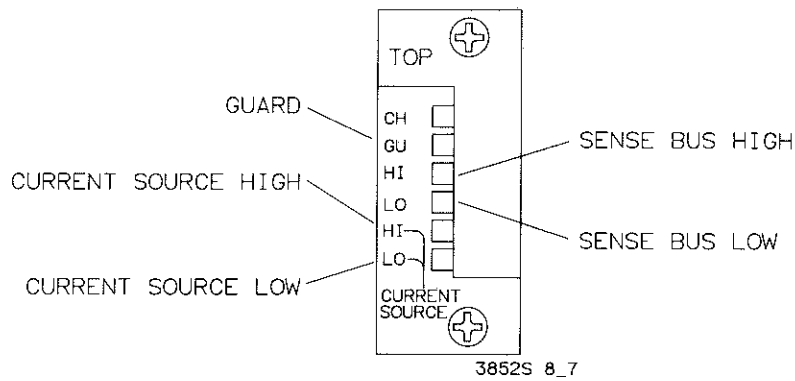
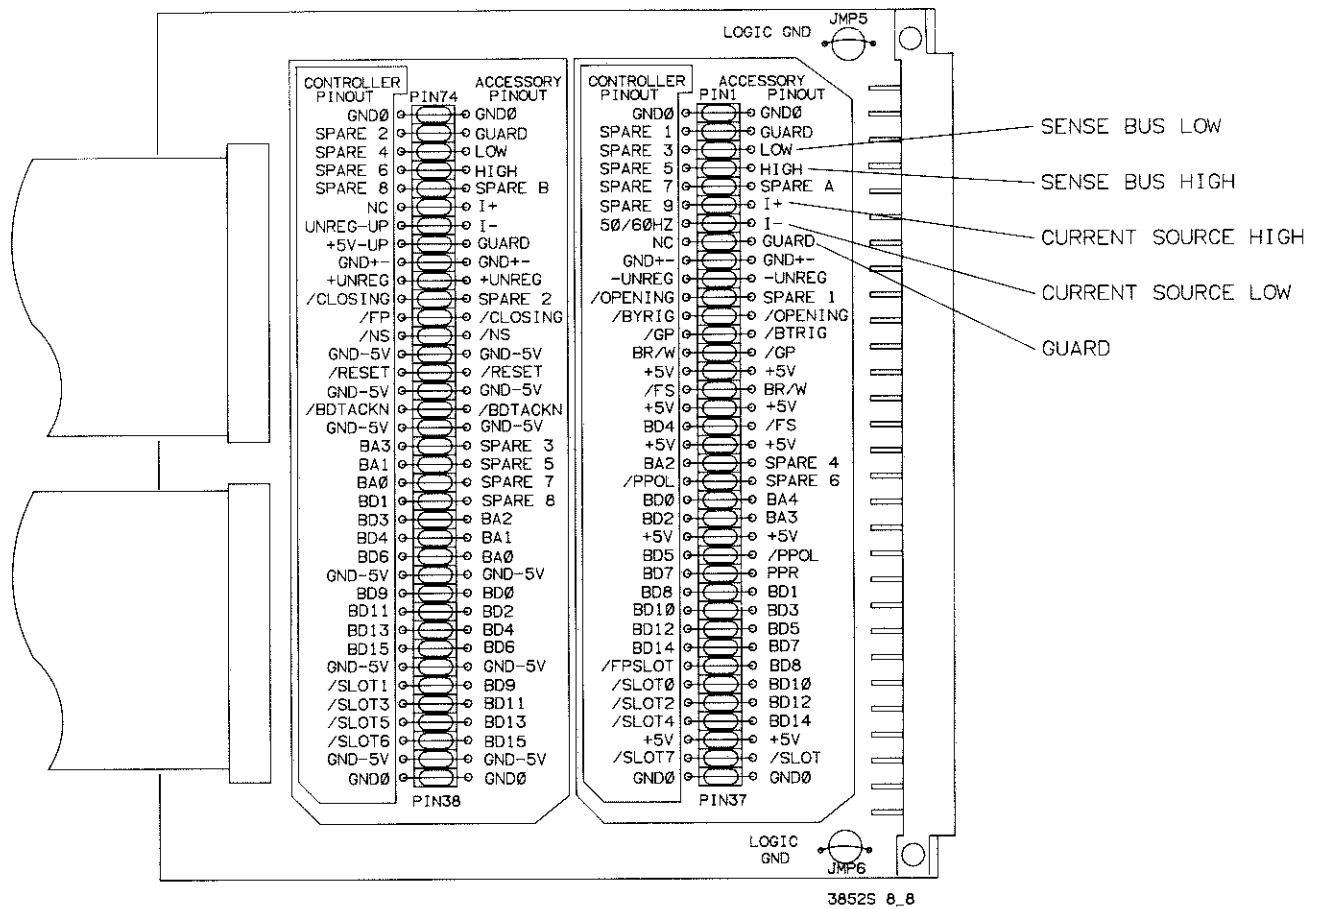

Figure 10-10 Analog Bus Connector
Figure 10-11 HP 44743A Service Module
*The backplane analog bus can be tested in one of two ways: 1) By connecting an external multimeter to the analog bus connector on the rear panel of the power supply module as shown in Figure 10-10, or 2) By connecting an external multimeter to the backplane analog bus line jumpers provided on the 44743A service module as shown in Figure 10-11.*